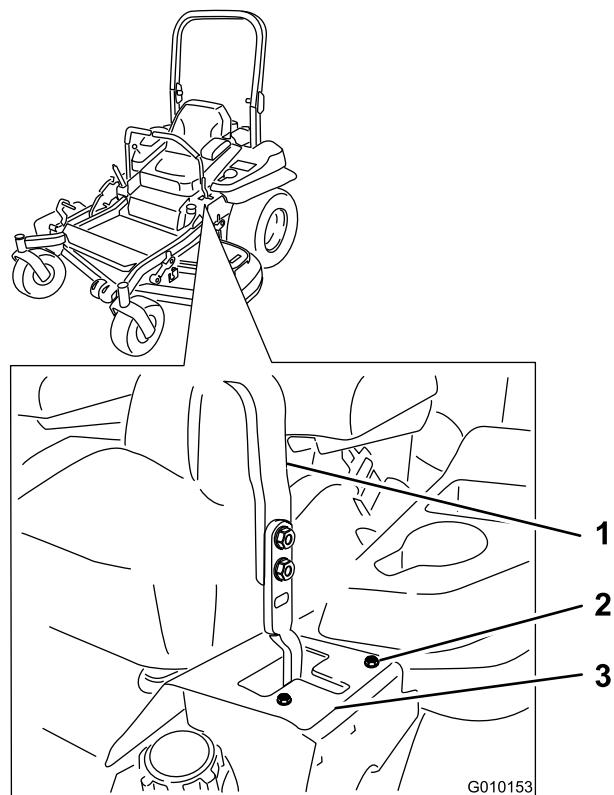

Figure 60
8. Tighten the stop plate (Figure 60).
6. If it tracks to the right, loosen the bolts and adjust the left stop plate rearward on the left T-slot until the machine tracks straight (Figure 60).
7. If it tracks to the left, loosen the bolts and adjust the right stop plate rearward on the right T-slot until the machine tracks straight (Figure 60).